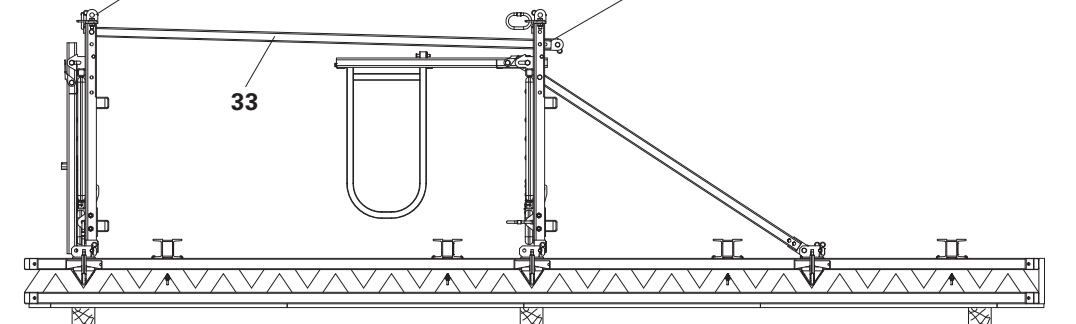

Fig. B2.11
2. Attach Platform Strut 246 (33) to top platform beam. (Fig. B2.11 + B2.11a)
3. Attach Platform Strut 264 vertically to the bottom platform beam. (Fig. B2.11 – B2.11b)